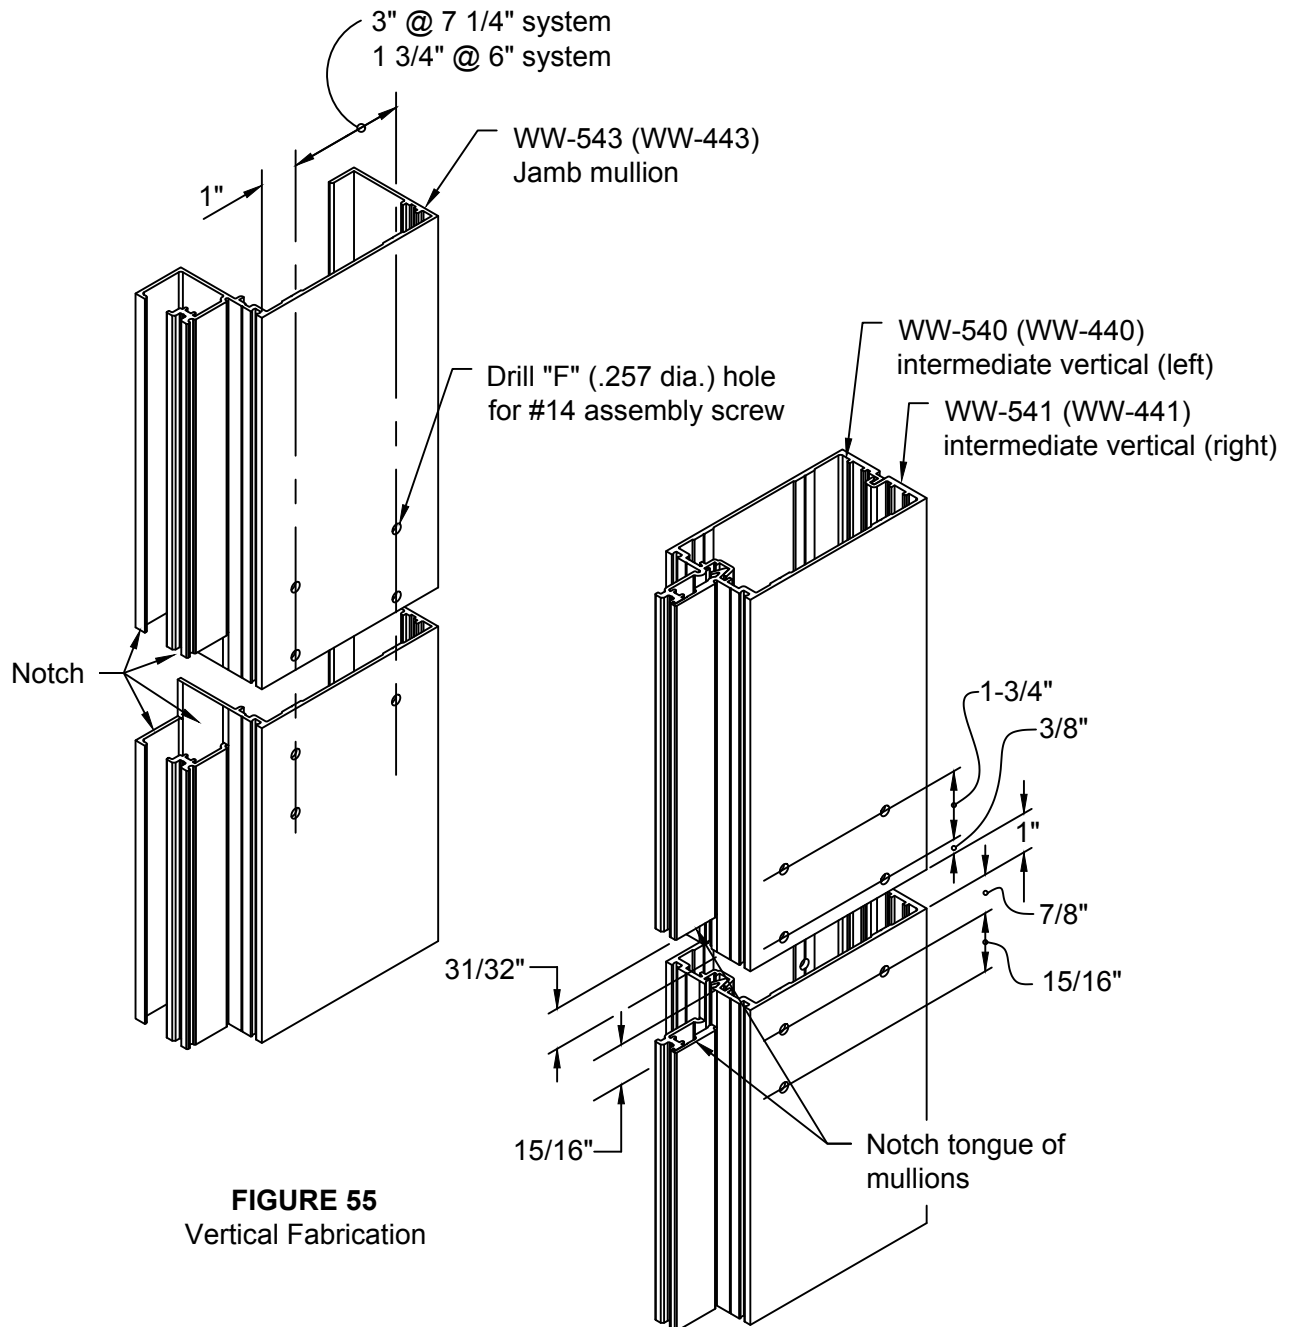

FIGURE 55
6.2 Notch tongue of upper mullion 31/32" and lower mullion 15/16" as shown in **FIGURE 55**. Notch flush with face of mullion to allow installation of WW- 257 & WW-258 expansion joint gasket retainers.
6.3 Drill mullions using "F" (.257Ø) drill bit. Upper mullion may use either standard WW-442 or WW-542 horizontal or WW- 483 or WW-583 at exposed expansion conditions. Lower mullion fabricated for WW-484 or WW-594 horizontals. **See FIGURE 55**.